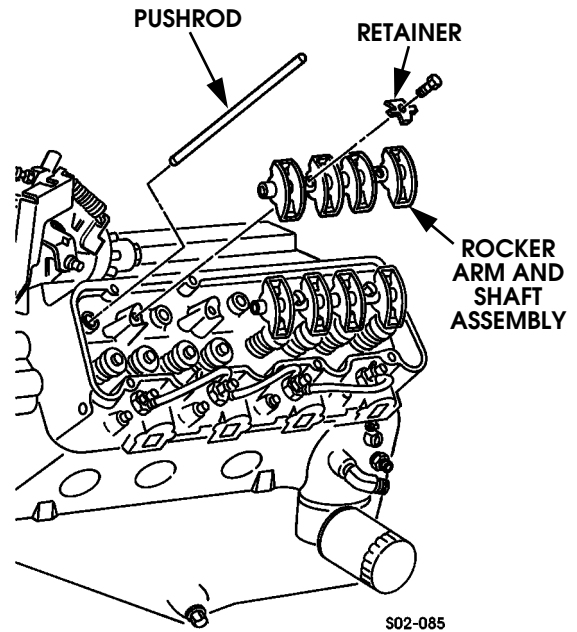

Figure 2-206: Rocker Arm and Shaft Installation
3. Align and install rocker arm and shaft assemblies (Figure 2-206). Be very sure pushrods are seated in lifter and in rocker arms. Also be sure rocker arm retainers are in place and seated.